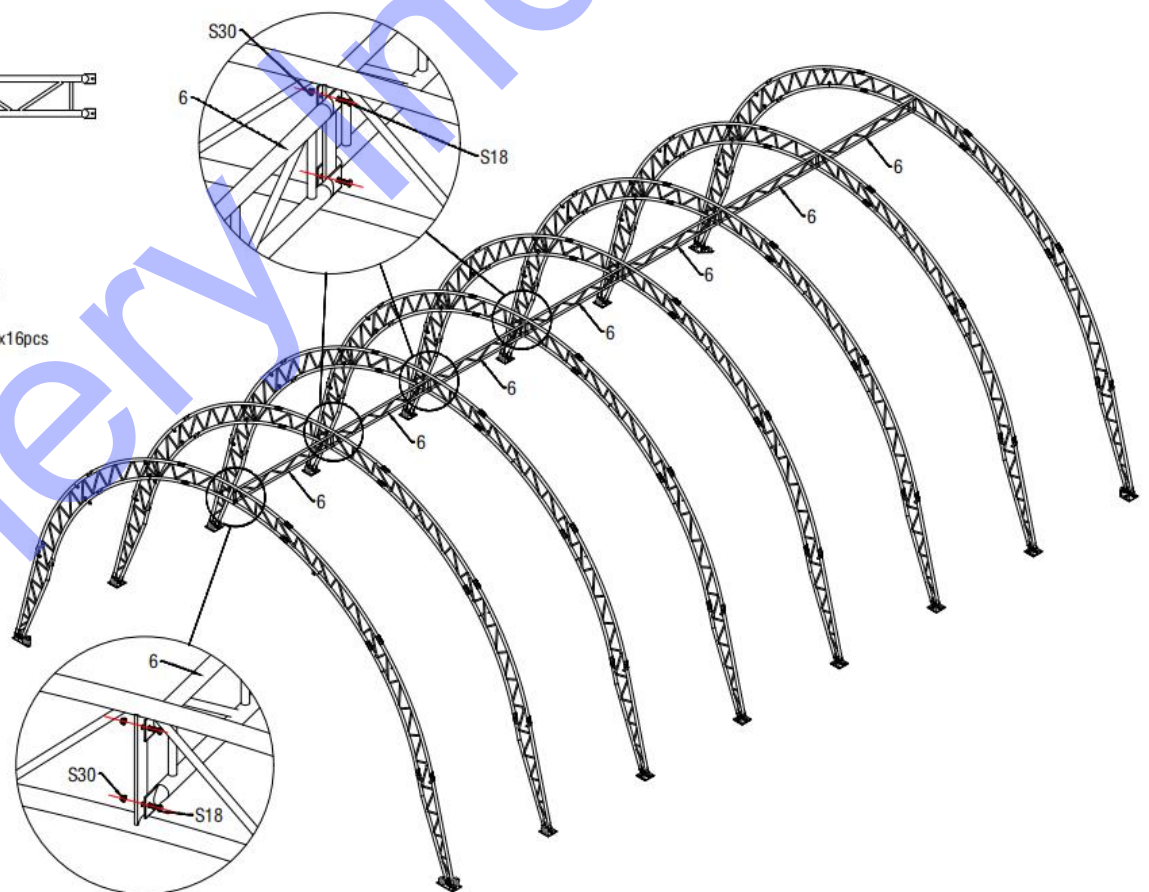
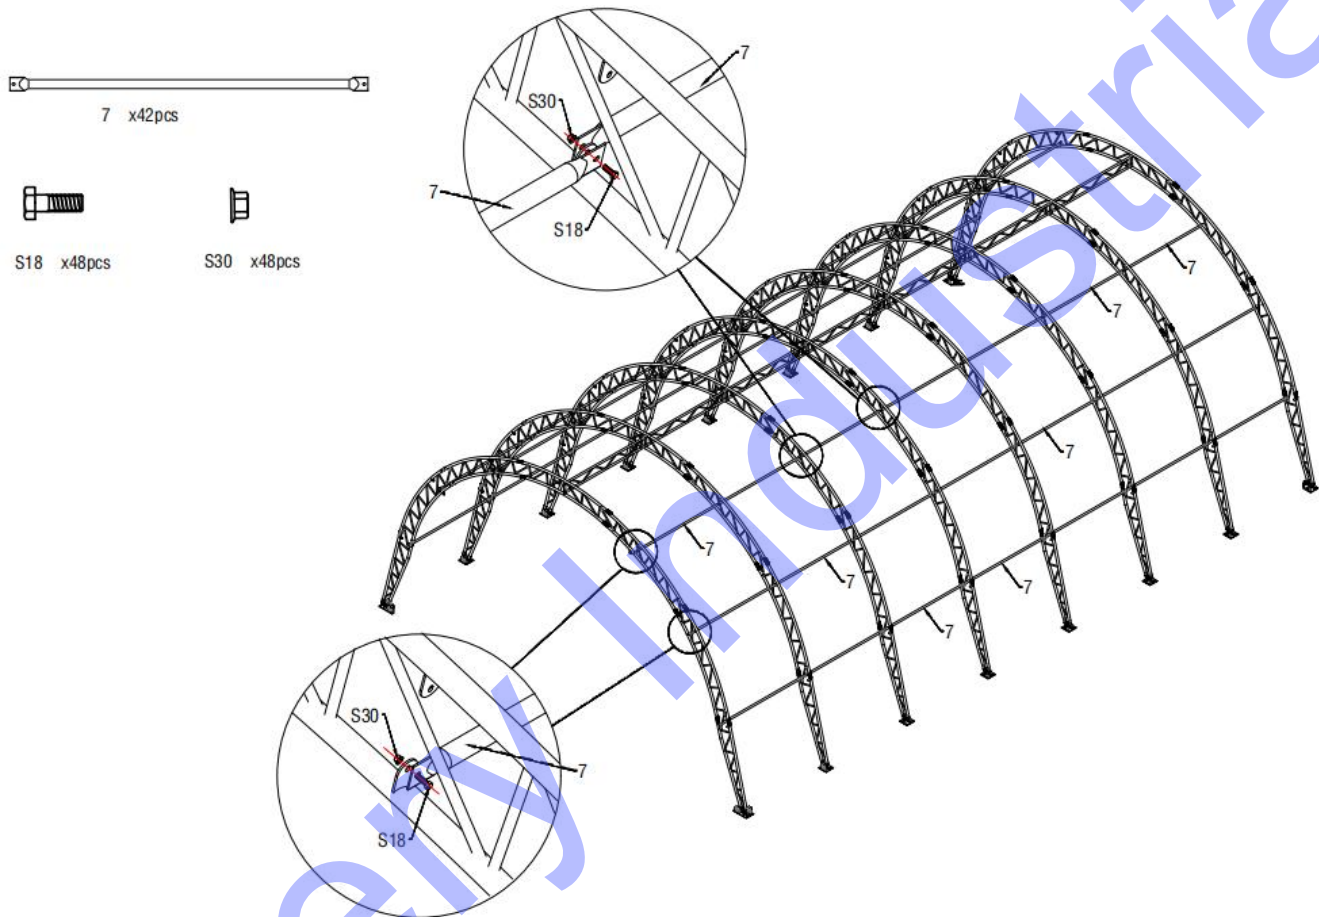

Figure 7
Figure 8
4. Above Figure 7 shown when finish installing all the arches into the base plates, use Double Trussed Purlins (No.6) to connect them by Screw M10x30 (No.S18) . Then use Purlins(No.7) to connect the arches by Screw M10X30 (No.18). In this turn, fix all other purlins. Finished stretch frame as below(Figure 8)